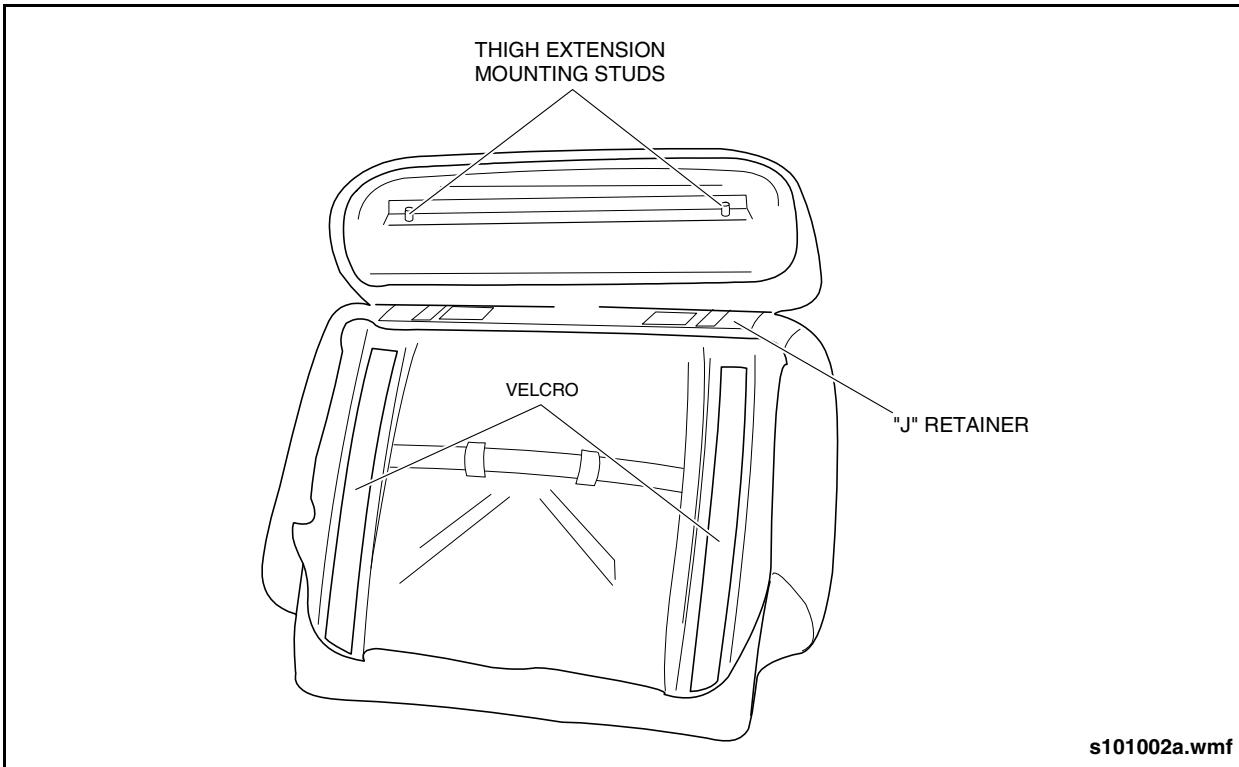

Fig. 17-3: Seat Cushion
1. To remove the seat cushion, remove the two 10 mm lock nuts on the underside of the thigh extension and lift up to release it from the rake adjustment frame. See "Fig. 17-3: Seat Cushion" on page 5.